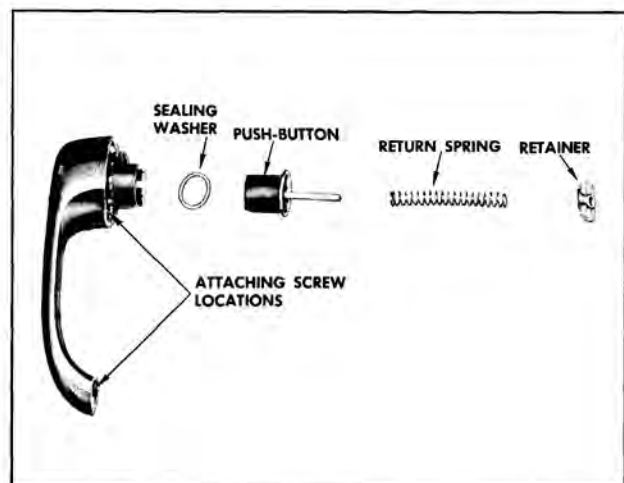

Fig. 16-324 Front Door Outside Handle Assembly
2. Depress and rotate retainer 1/4 turn. On front doors, the retainer, push-button, return spring and sealing washer can be removed separately. On rear doors the retainer, push-button and push-button return spring are serviced as one unit. (Figs. 16-324 and 16-325)